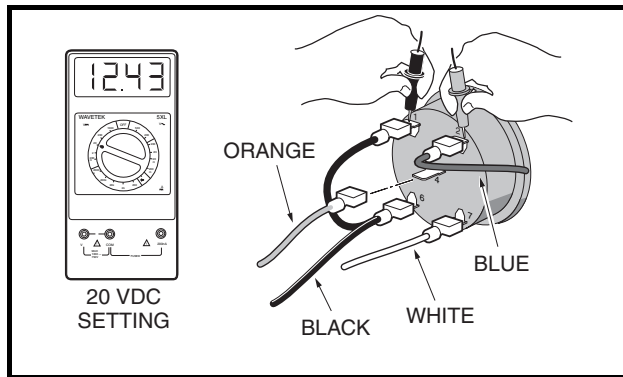

Figure 11-39 Fuel Gauge Voltage Test - Terminal 2
6. Set a multimeter to 20 volts DC and place the red (+) probe on the (2) terminal of the fuel gauge/hour meter with the blue wire is connected. Place the black (-) probe on the (1) terminal of the fuel gauge/hour meter with the black wire (**Figure 11-39, Page 11-35**).
8. Turn the key switch ON. The voltage reading should be the same as the battery voltage reading recorded earlier. If not, check the continuity of the blue and black wires (**Figure 11-39, Page 11-35**).